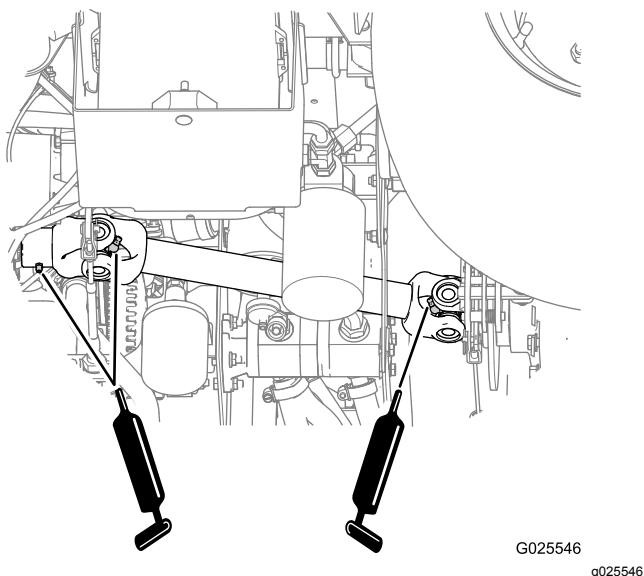

Figure 39
- Drive shaft U-joints (2); refer to Figure 39
- Sliding yolk (1); refer to Figure 39